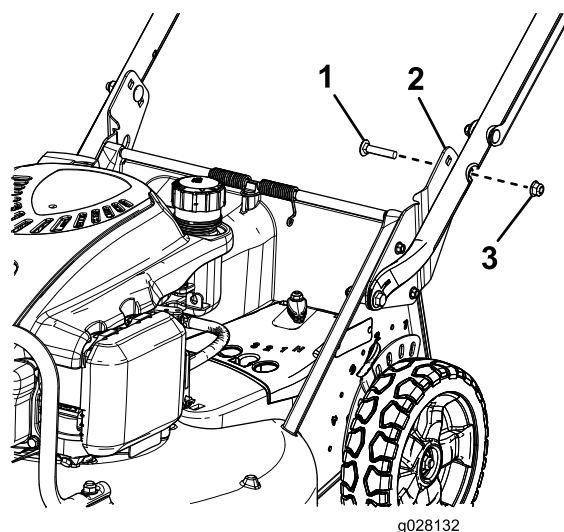

Figure 6
6. Secure the handle onto the handle brackets at your desired handle height with 2 carriage bolts (5/16 x 1-1/2 inches) and 2 flange nuts (5/16 inch) as shown in Figure 6.